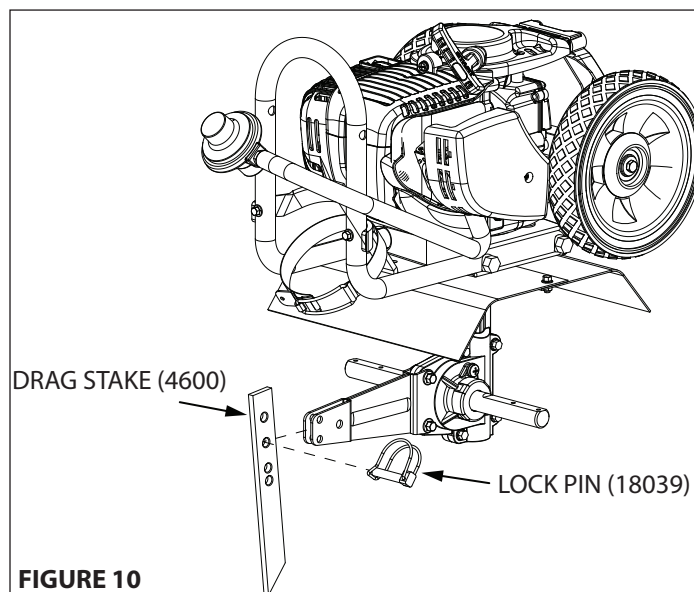

FIGURE 10
4. Place drag stake (4600) in bracket (4633) and secure at desired depth with lock pin (18039). **SEE FIGURE 10**